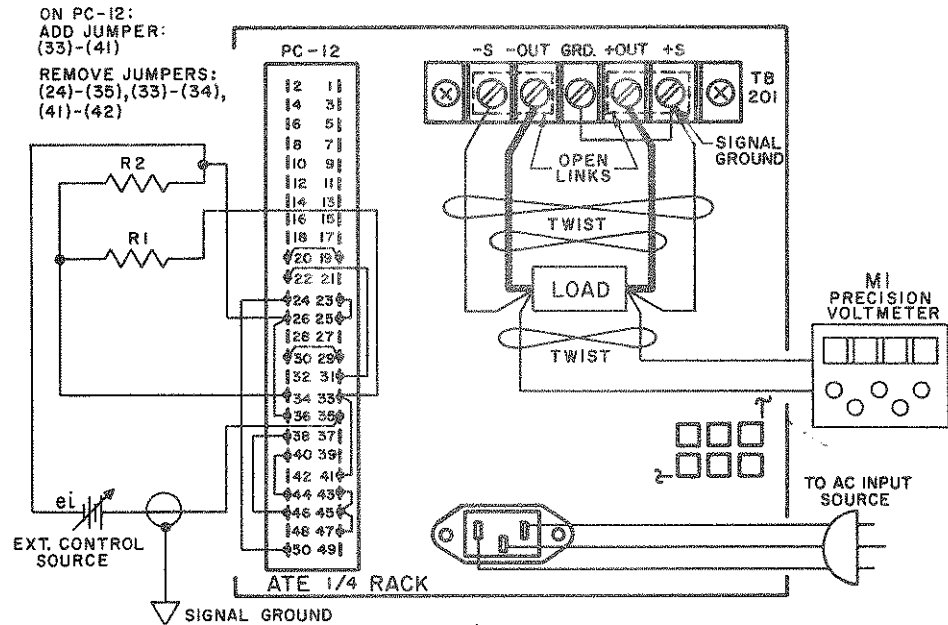

FIG. 3-10 CONNECTIONS FOR VOLTAGE CONTROL WITH A HIGH IMPEDANCE INPUT SOURCE.
- 1) Connect the external components, the LOAD and the PRECISION VOLTMETER (M1) to the ATE as shown in FIG. 3-10.